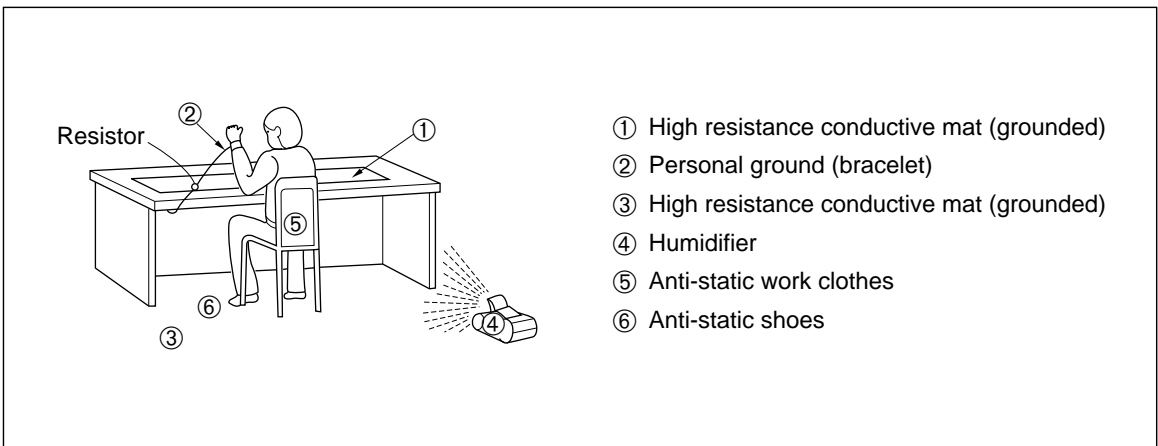

Figure 1 Static Electricity Countermeasures for Semiconductor Handling
2. Ground all instruments, conveyors, work benches, floor mats, tools, and soldering irons to prevent the accumulation of static charges. Lay conductive mats (with a resistance on the order of $10^9 \Omega$ to $10^{11} \Omega$) on workbenches and floors and ground them. (See figure 1.)